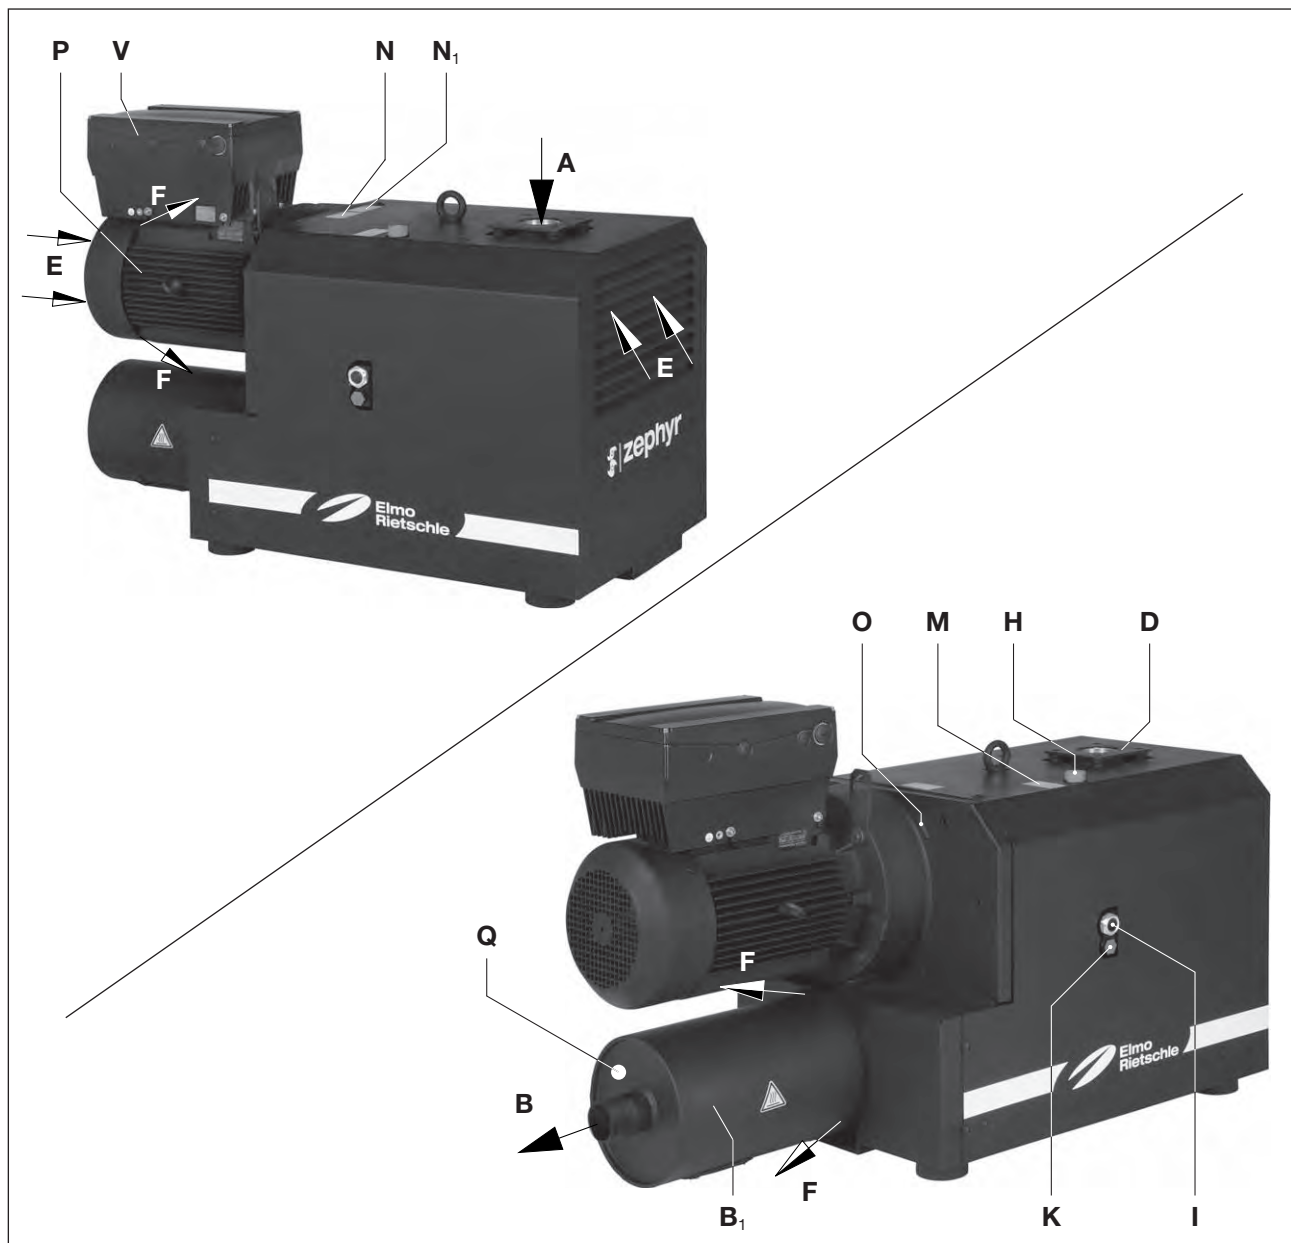

Fig. 2 Vacuum pump C-VLR 301 (15BI)
- the machine must only be operated at speed- and frequency range according to the data plate (Fig. 2/N₁)
The C-VLR 301 (F001) model has a connection flange on the inlet side and an exhaust silencer on the pressure side (Fig. 2/B₁). The C-VLR 301 (F002) model has a vacuum gauge (Fig. 2/Y), a suction filter (Fig. 2/S₁) on the inlet side and an exhaust silencer on the pressure side (Fig. 2/B₁). An integral non-return valve prevents the evacuated system from being ventilated after the pump has stopped.
The gearbox and the compression chamber are separated from each other by special seals. The gearbox is sealed from the outside with shaft seals and O rings, the compressor chamber with piston rings. The VLR 301 is enclosed in an insulating hood. In order to dissipate compression heat, the cooling air is sucked through between the machine and the hood using a drum fan that sucks in the fresh cooling air (Fig. 2/E) and discharges the heated air out of the cooling air outlet (Fig. 2/F).
Three-phase motor with integral frequency converter (Fig. 2/V) makes possible infinitely variable control of the speed.
The oil filling point (Fig. 2/H), oil sight glass (Fig. 2/I) and the oil outlets (Fig. 2/K) must be easily accessible. The cooling air inlets (Fig. 2/E) and the cooling air outlets (Fig. 2/F) must be at least 30 cm away from adjacent walls. Cooling air coming out must not be sucked in again. For maintenance work there must be a minimum of 40 cm in front of the inlet filters (Fig. 2/S₁, 2/S₂).
- a) Connect the vacuum line (Fig. 2/A).
- b) The extracted air can be discharged through the exhaust silencer (Fig. 2/B) or conducted away via a pipe.
When the machine is at operating temperature the surface temperatures on the components (Fig. 2/ Q) may go above 70°C. You must avoid touching the hot surfaces (marked with warning plates).
- ▷ The intended direction of rotation of the drive shaft is shown by the rotary direction arrow (Fig. 2/O).